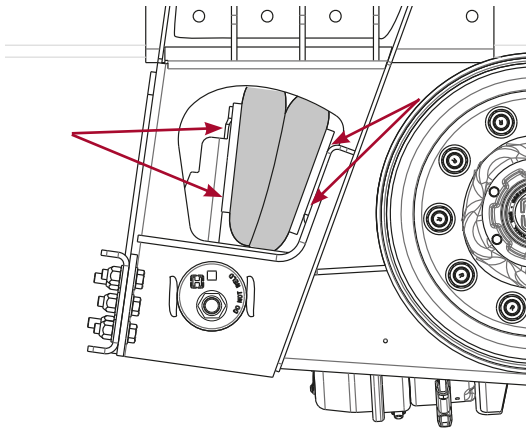

Figure 18: Access lift air spring bolts with axle lowered
5. Remove the mounting bolts from lift air spring. Refer Figure 18.